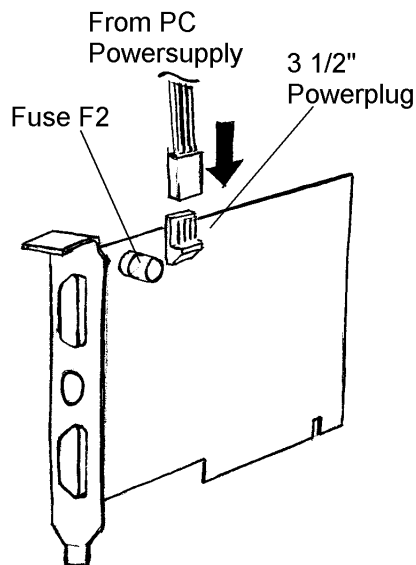

Figure 7: Set up of the power supply feature
- One of the computer's 3¹/₂" power plugs has to be connected to the power inlet of the framegrabber, if the camera power supply feature is intended to be used. (The 1.6 A fuse in socket F2 secures the power supply output.) *Figure 7* depicts the connection.